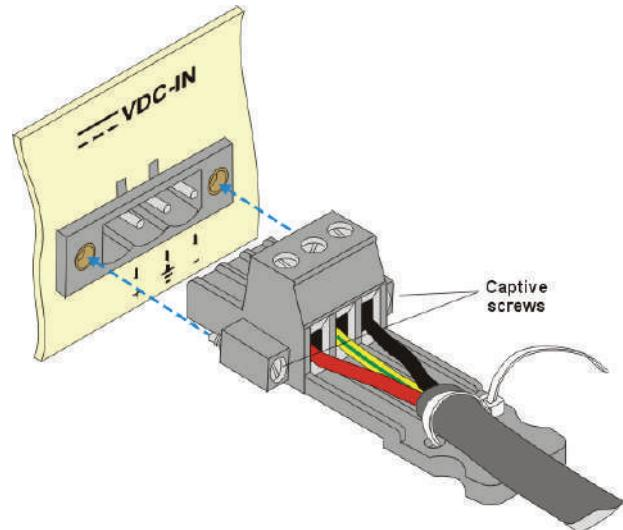

Figure 4. TB Plug with Captive Screws (optional)
**Note:** Certain TB plugs are equipped with captive screws for securing the assembled cable's TB plug to the unit's VDC-IN connector (C and E types only). To secure the plug, tighten the two screws on the plug into the corresponding holes on the sides of the input connector as shown in Figure 4.
1. If the TB plug is equipped with captive screws, loosen the captive screws (see Figure 4).